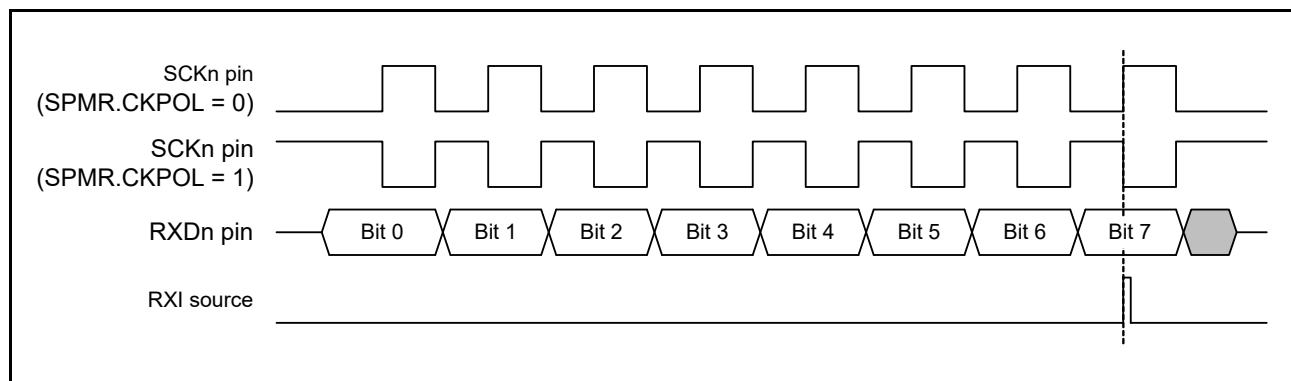

Figure 41.85 Timing of the RXI Interrupt in Simple SPI Mode (with Clock Delay)
- In the case of the setting for clock delay (SPMR.CKPH bit is 1), the receive data full interrupt (RXI) is generated before the final clock edge on the SCKn pin as indicated in Figure 41.85. If the TE and RE bits in the SCR register become 0 at this time before the final edge of the clock signal on the SCKn pin, the SCKn pin is placed in the high-impedance state, so the width of the last clock pulse of the transfer clock is shortened. Furthermore, an RXI interrupt may lead to the input signal on the SSn# pin of a connected slave going to the high level before the final edge of the clock signal on the SCKn pin, leading to incorrect operation of the slave.